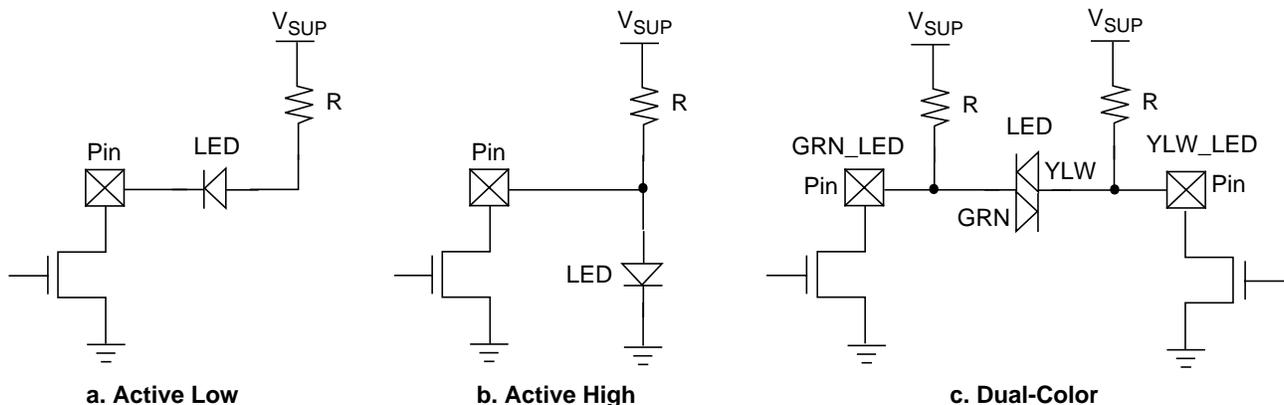

Figure 16. LED Connection Configurations
The LEDs can be connected to PC87373 using one of the configurations shown in Figure 16.
The Standard LED control is the default LED control option when  $V_{BAT}$  pin is connected to ground ( $V_{SS}$ ). Two regular LEDs must be connected to the GRN\_LED and the YLW\_LED pins, according to configuration “b” (Active High) in Figure 16.
Table 34 on page 89 shows the states of the GRN\_LED and YLW\_LED pins. The LEDs are connected according to configuration “b” (see Figure 16); therefore, a LED is on when the pin is TRI-STATEd and off when the pin is at low level (0).
In the Advanced LED control option, one dual-color LED or two regular LEDs can be connected to the GRN\_LED and the YLW\_LED pins, using any of the configurations shown in Figure 16. LEDCFG and LEDPOL bits in ALEDCTL register (at offset 02h; see Section 6.3.4 on page 91) must be set to reflect the connection configuration of the LEDs.
LEDCFG bit selects either configurations “a” and “b” (two regular LEDs are connected between each pin and ground or  $V_{SUPP}$ ) or configuration “c” (one dual-color LED is connected between the GRN\_LED and YLW\_LED pins). LEDPOL bit selects the polarity of the On state at both pins (GRN\_LED and YLW\_LED). Table 32, shows the value of LEDCFG and LEDPOL bits for each LED connection configuration in Figure 16, and also the state of the GRN\_LED and YLW\_LED pins for which the LED(s) are On.
The Special LED control is the default LED control option when a Lithium backup battery is connected to  $V_{BAT}$  pin ( $V_{BAT} > V_{BATLOW}$ ). Two regular LEDs must be connected to the GRN\_LED and the YLW\_LED pins, according to configuration “b” (Active High) in Figure 16.
Table 36 on page 92 shows the states of the GRN\_LED and YLW\_LED pins. The LEDs are connected according to configuration “b” (see Figure 16 on page 85); therefore, a LED is On when the pin is TRI-STATed; it is Off when the pin is at low level (0).